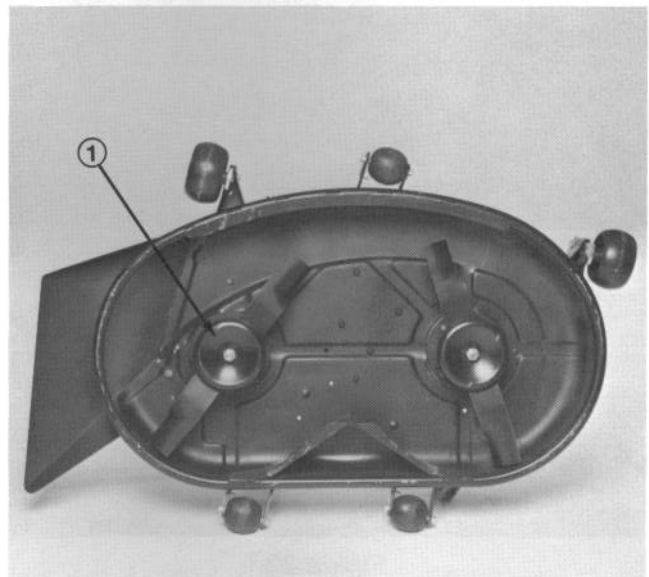

Figure 25
3. Turn cutting unit on its side, grasp the end of the blade with a rag or thickly padded glove; then remove the locknut, anti-scalp cup and blade (Fig. 25).
7. In sequence, install blade, anti-scalp cup and locknut (Fig. 25). Tighten locknut to 50-60 ft/lb (68-81 N·m).
IMPORTANT: Make sure blade sail is facing top of mower housing and cutting edge of blade is away from top of mower housing (Fig. 25). While lock nut is tightened, move blade slightly so it seats between sides of blade retainer.